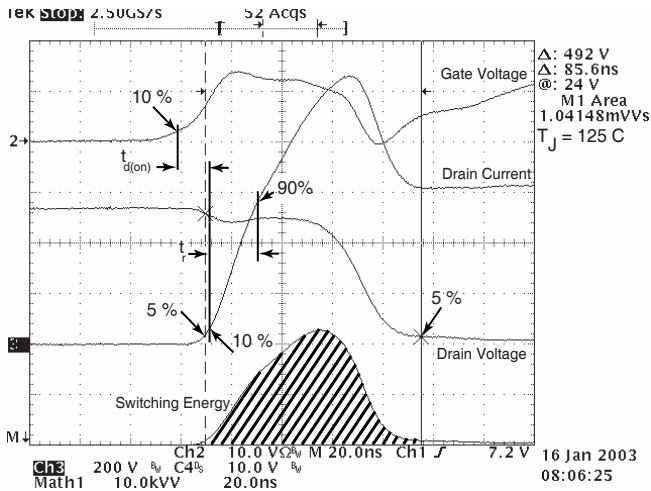

Figure 18, Turn-on Switching Waveforms and Definitions
① Repetitive Rating: Pulse width limited by maximum junction temperature
② Pulse Test: Pulse width < 380  $\mu s$ , Duty Cycle < 2%
③ See MIL-STD-750 Method 3471
④ Starting  $T_j = +25^\circ C$ ,  $L = 2.00mH$ ,  $R_G = 25\Omega$ , Peak  $I_L = 31A$
⑤  $dv/dt$  numbers reflect the limitations of the test circuit rather than the device itself.  $I_S \leq -I_D 31A$   $di/dt \leq 700A/\mu s$   $V_R \leq V_{DSS}$   $T_j \leq 150^\circ C$
⑥  $E_{on}$  includes diode reverse recovery. See figures 18, 20.